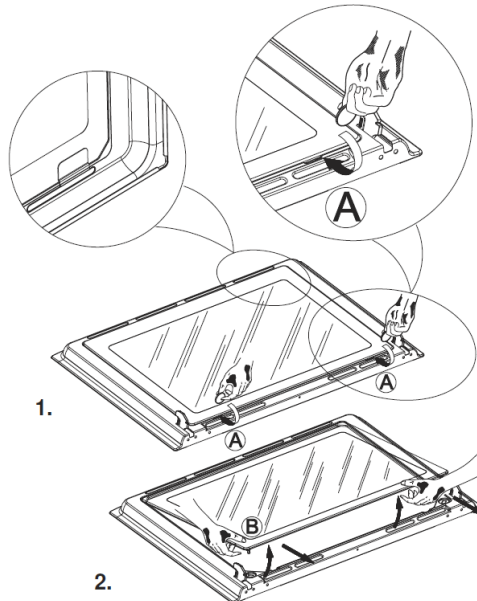

Figure 10.
1. The door with internal glass panel (Please see **figure 10** below)
See figure 10 below.